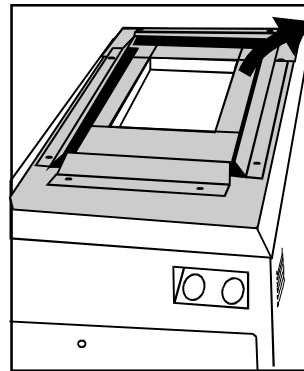

Figure 4.
3. Remove the rainguard assembly (see Figure 4).